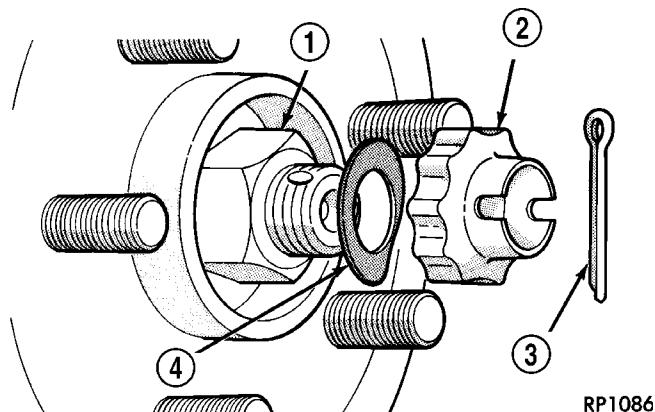
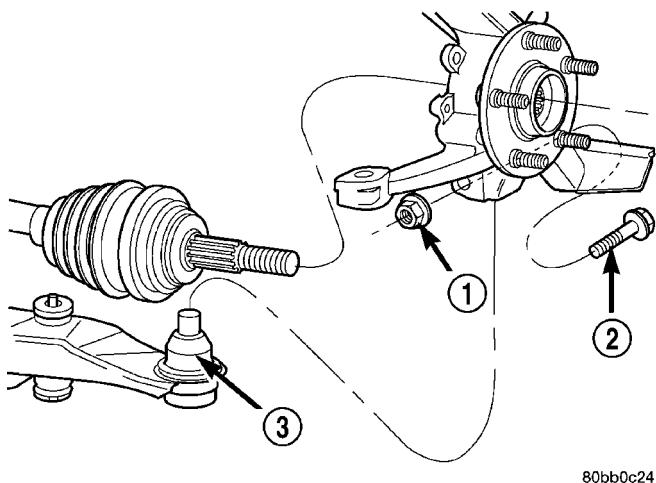

Fig. 13 Halfshaft Retaining Hardware
Fig. 14 Steering Knuckle at Lower Control Arm Ball Joint
(5) Remove the cotter pin, nut lock, and spring washer, and hub nut from the end of the outer C/V joint stub axle (Fig. 13).
(6) If equipped with ABS, disconnect the front wheel speed sensor and secure harness out of the way.
(7) Remove nut and bolt (Fig. 14) retaining ball joint stud into steering knuckle.